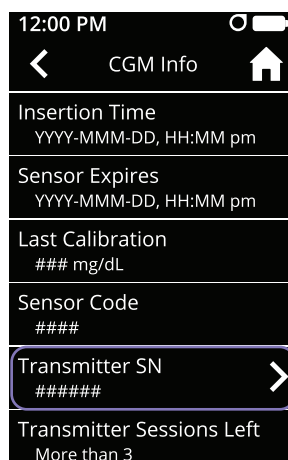

Figure 79
- Tap **Transmitter SN** (see Figure 79)